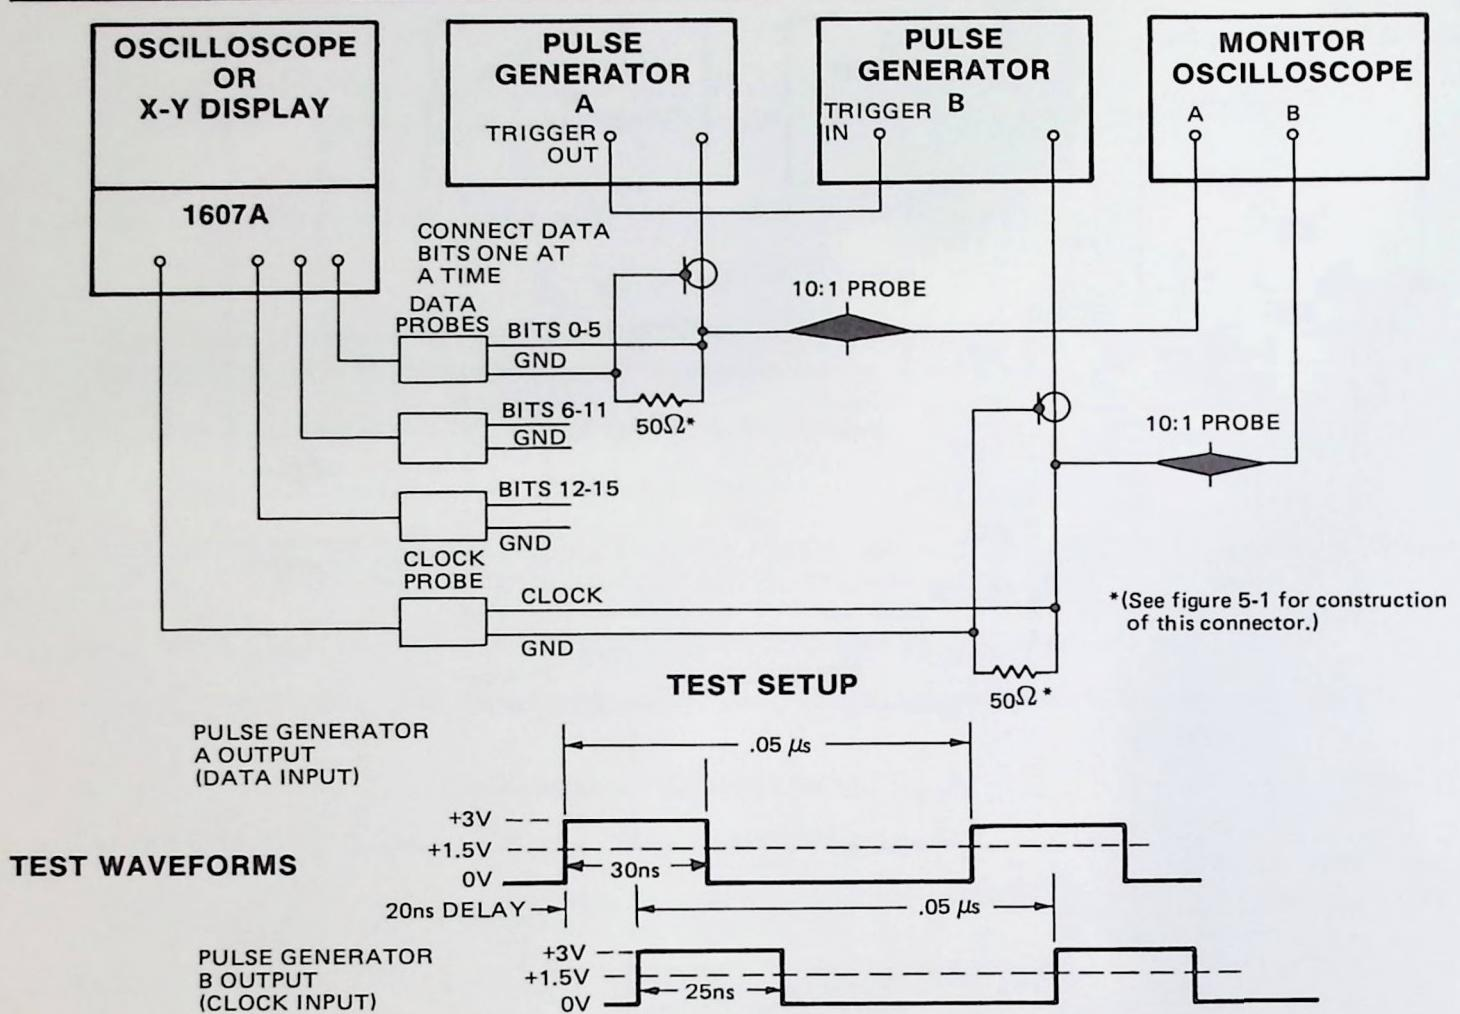

Figure 5-5. Repetition Rate Test Setup
- Connect test equipment as shown in figure 5-5.
- Apply test waveforms shown in figure 5-5 to CLOCK and DATA probe input 0.